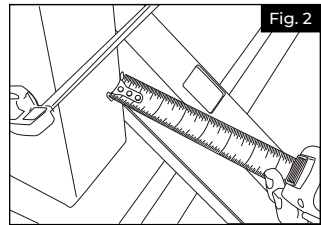
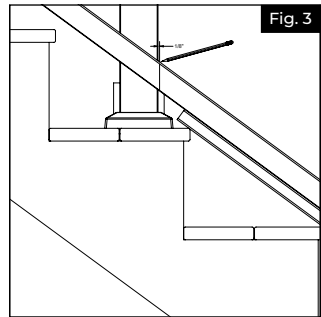

Fig. 2
Fig. 3
- b. Mark $\frac{1}{8}$ " from end of post to allow room for brackets (Fig. 2).
- c. Align top rail with bottom rail and cut both rails with miter box or hacksaw (see saw blade manufacturer's specs for correct blade) (Fig. 3).
- b. Place the bottom rail, baluster holes facing up, on the plank. Slide the rail up or down until the baluster hole spacing is even on each end (Fig. 2). Trace the post onto the rail and mark $\frac{1}{8}$ " short at each end to allow for bracket gaskets (Fig. 3).
Place adapter between brackets and posts. Pre-drill and use the longer 3" screws provided with adapters to connect to the post (Fig. 2).